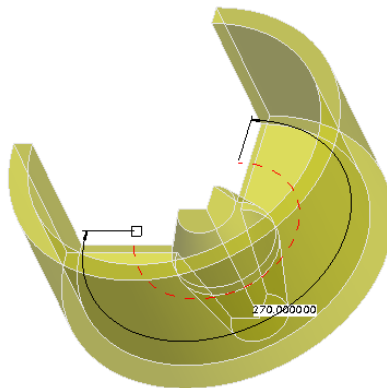

Figure 3-30 Default trimetric view of the model
8. From the **Saved view list** button, choose the **Default Orientation** option. The model orients in its default orientation, that is, trimetric view, as shown in Figure 3-30.
But the view that is shown in Figure 3-30 is not the view that is needed. The model is not oriented correctly. This means that the direction of feature creation that was selected was not correct in order to get the desired orientation.